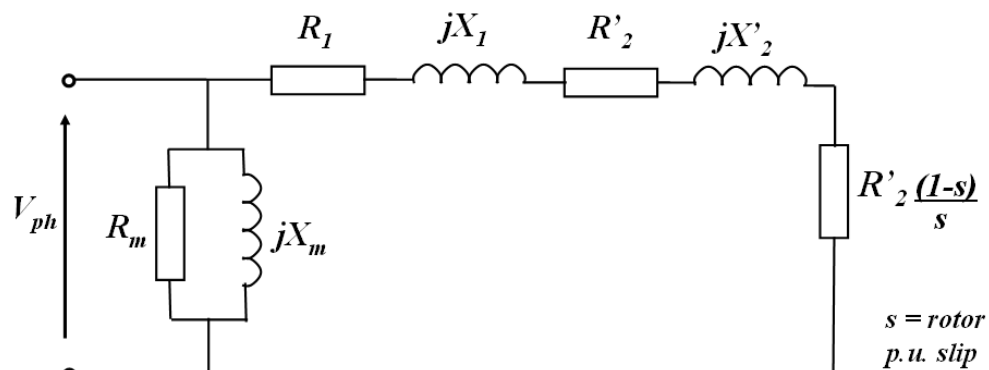

Figure A1.1
- a. Sketch a typical torque-speed characteristic for an induction machine identifying both motoring and generating regions, the synchronous speed and any critical operating points from a generator perspective. (3)
- b. A chemical processing company has a base load demand of 15MVA at 0.7 power-factor lagging which it draws from an 11kV, 50Hz, infinite busbar supply. To reduce its carbon footprint, the company decides to use waste steam from one of the production processes to operate a steam turbine which drives a 6-pole, 3-phase, star-connected induction generator. The induction generator can be modelled using a simplified, per phase equivalent circuit, as shown in Figure A1.1. The equivalent circuit parameters of the machine are given in Table A1.1